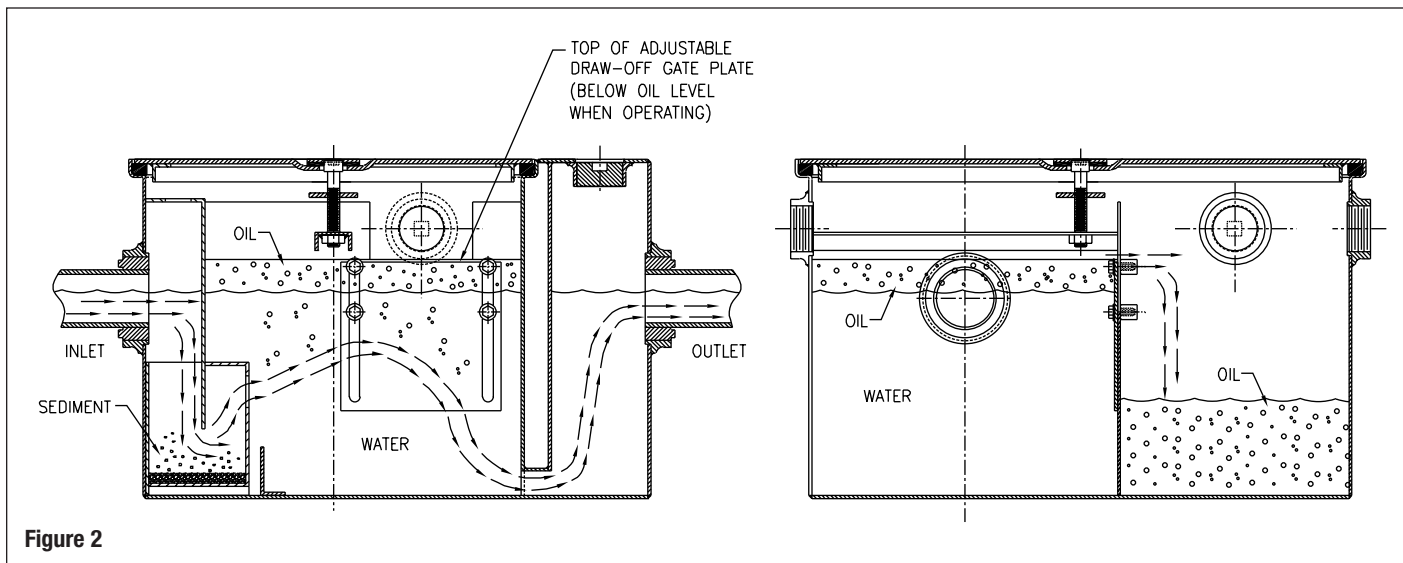

Figure 2
**Figure 2** below shows the conditions inside the interceptor in an “operating” or “flowing” mode. The oil/water mixture flows from the inlet piping into the interceptor and causes the oil/water level to rise. The mixture is directed downward into and through a removable sediment bucket. Heavier particles and sediment are collected in the bucket while the oil/water mixture continues through the bucket and is directed into the main separation compartment. The oil separates from the water by rising to the top and is now on the surface of the water. The oil/water level inside the interceptor has risen to a level which puts the layer of oil above the top of the adjustable draw-off gate plate allowing the oil to “spill” over the top of the gate plate and into the oil storage compartment. The water exits the main separation compartment through the outlet opening at the bottom of the unit passing through the outlet trap and into the discharge waste system plumbing.